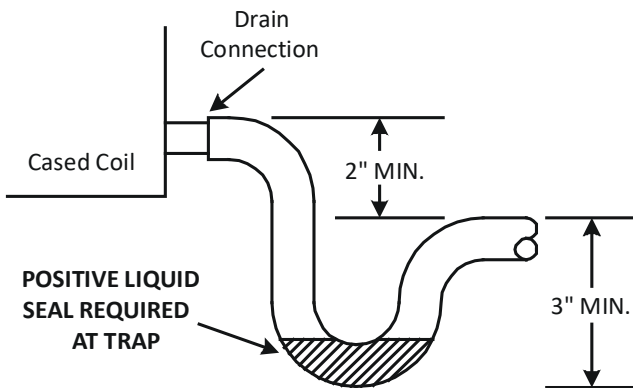

Figure 10
- Insulate drain lines located inside the building or above a finished living space to prevent sweating. The installation must include a "P" style trap that is located as close as is practical to the evaporator coil. See Figure 10 for details of a typical condensate line "P" trap.
NOTE: Units operating in high static pressure applications may require a deeper field constructed "P" style trap than is shown in Figure 10 to allow proper drainage and prevent condensate overflow.